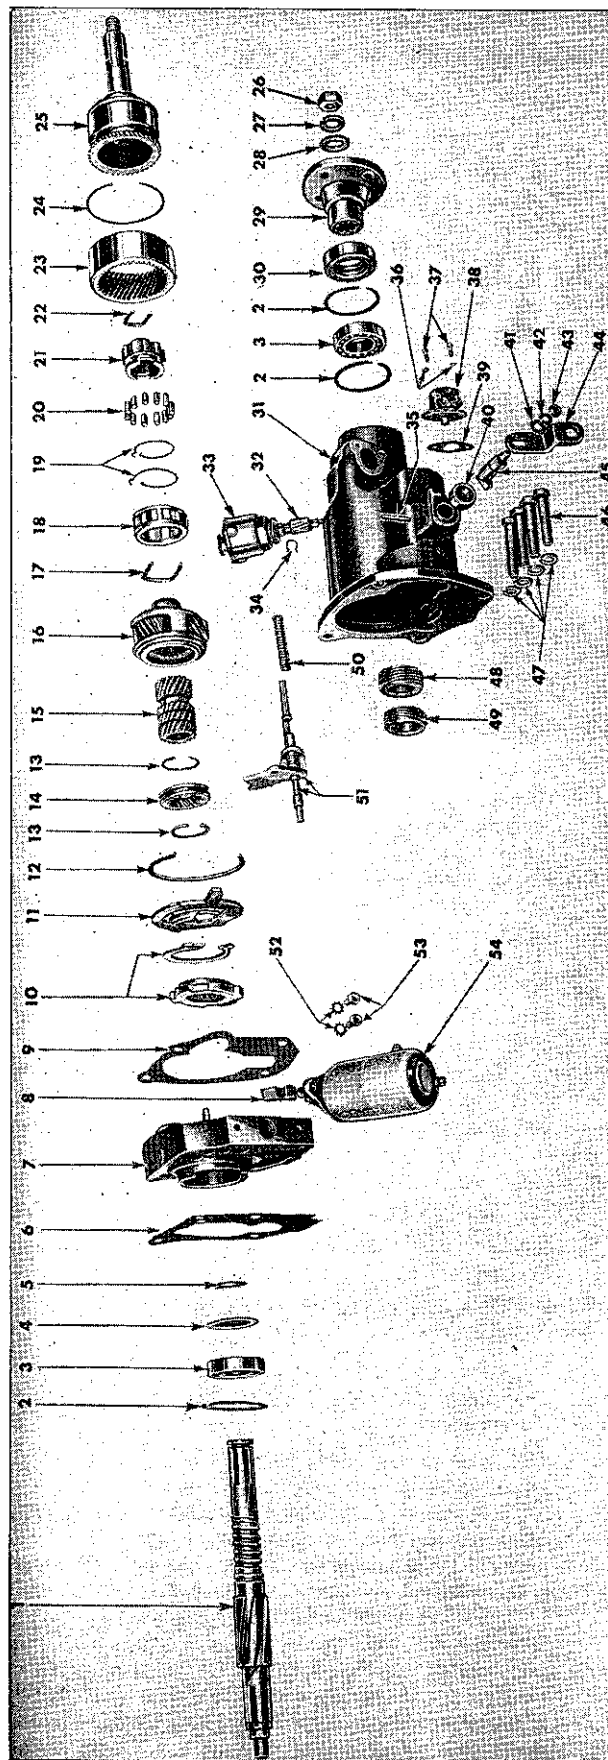

FIG. 215—TRANSMISSION OVERDRIVE—EXPLODED VIEW
b. Disconnect the two wires from the solenoid (Fig. 215, No. 54). Tag the wires and terminals for reassembly.
c. Disconnect the two wires from the overdrive rail switch (Fig. 215, No. 38) if the vehicle is equipped with this switch. Tag the wires and terminals for reassembly.